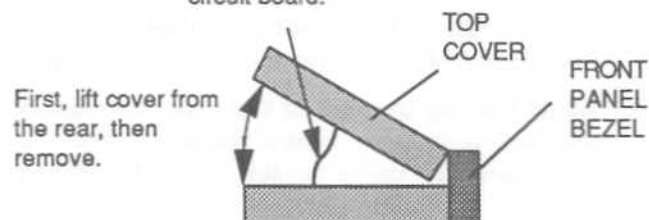

Figure 6-2. DP 100 Top Cover Removal
- (2) Remove the top cover:
- a. Remove the two top cover Phillips-head screws, with lock washers and flat washers, from the rear panel (Figure 6-2).
- (5) Replace the top cover:
- d. On the rear panel, install the two top-cover screws, lock washers and flat washers (see Figure 6-2).